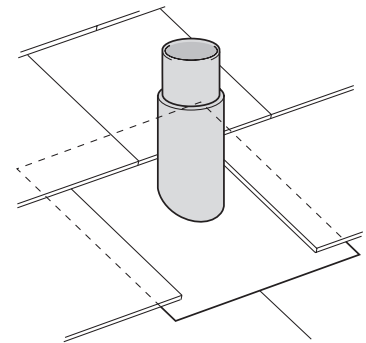

Fig. 20a Step 1
**Step 1** – Position purpose-made weathering slate on open end of soil stack (Fig. 20a)